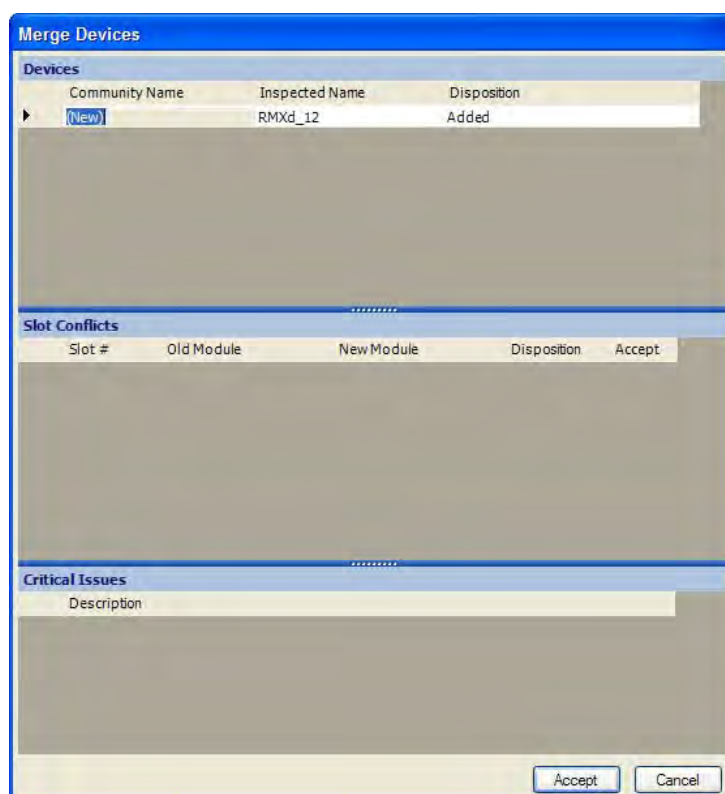

Figure 4-12. Community Inspection Results
5. Click **Continue** to view the inspection results on the Merge Devices window (Figure 4-12). With a new console, there are no slot conflicts or critical issues.